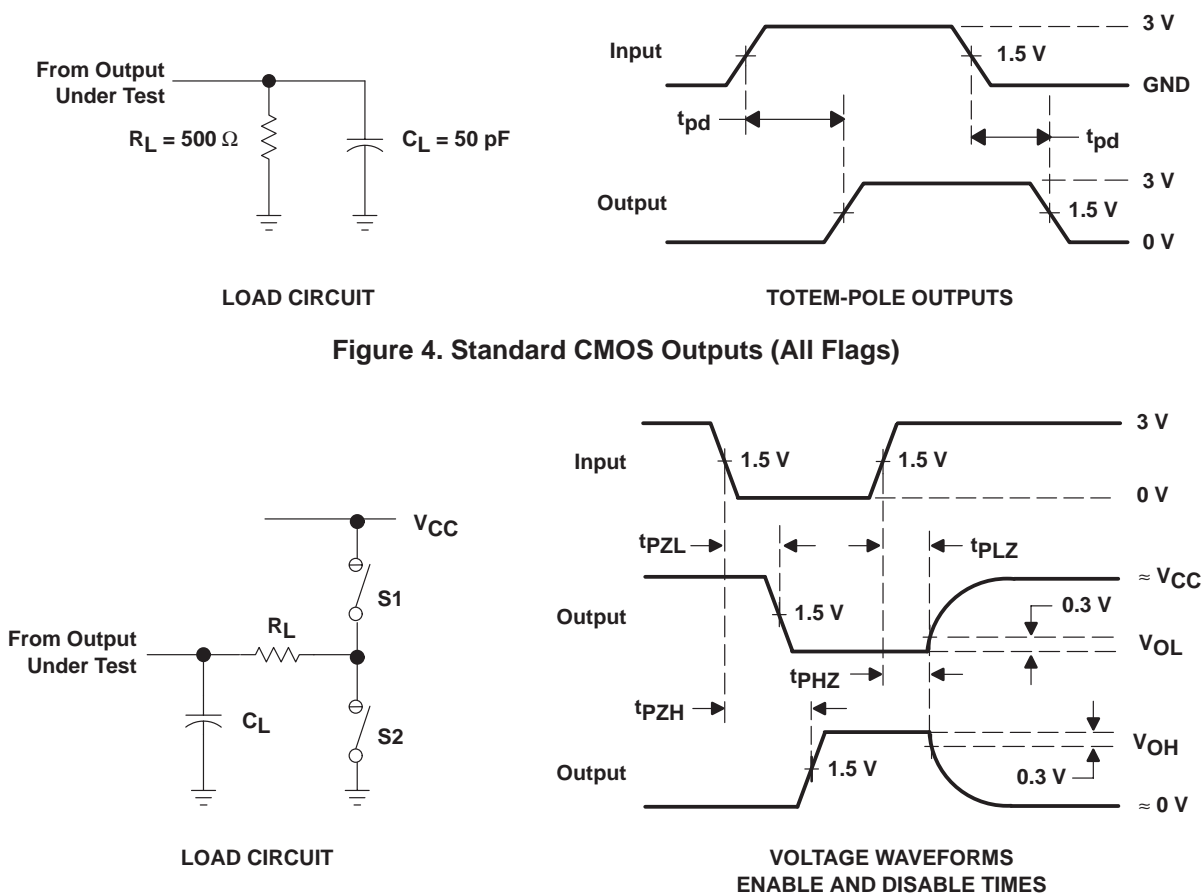

Figure 4. Standard CMOS Outputs (All Flags)
**switching characteristics over recommended ranges of supply voltage and operating free-air temperature, CL = 50 pF (unless otherwise noted) (see Figures 4 and 5)**